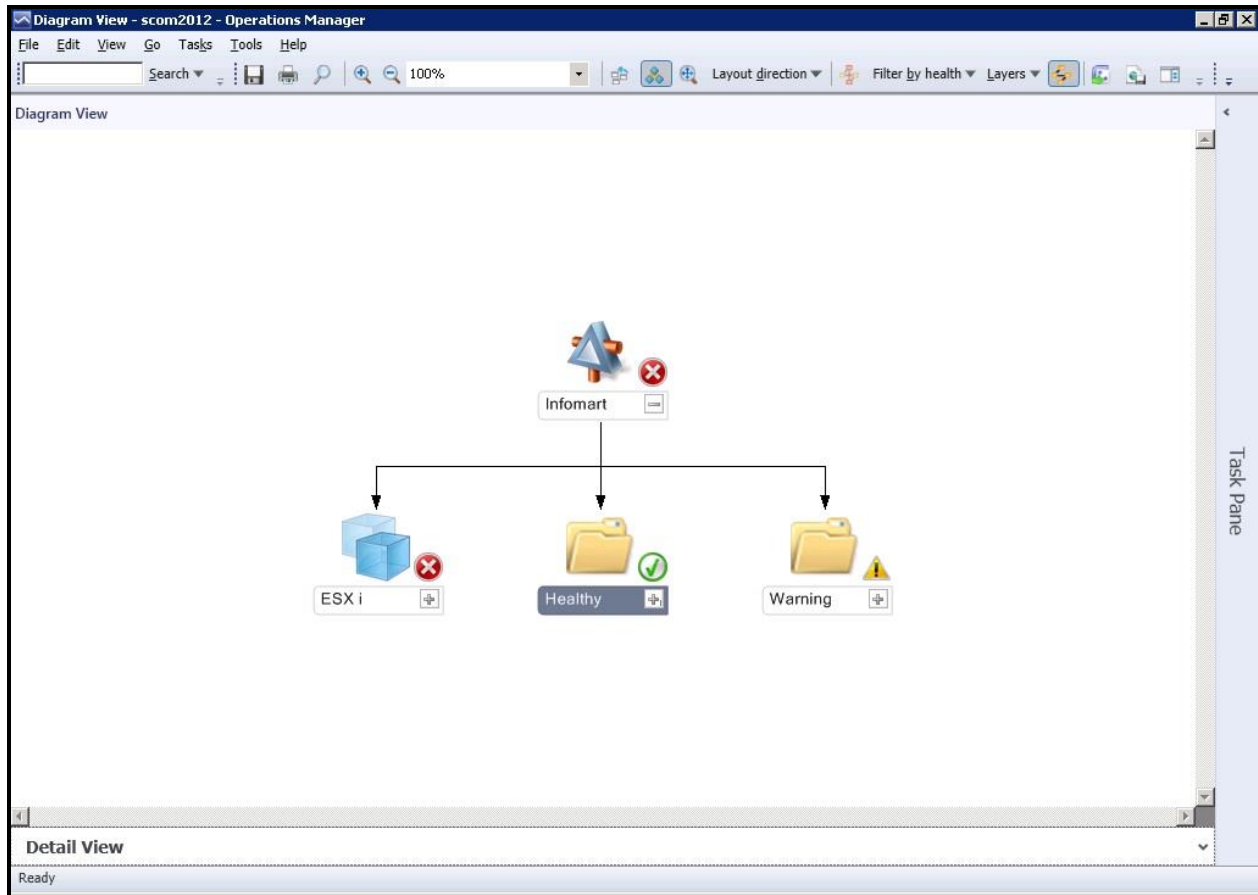
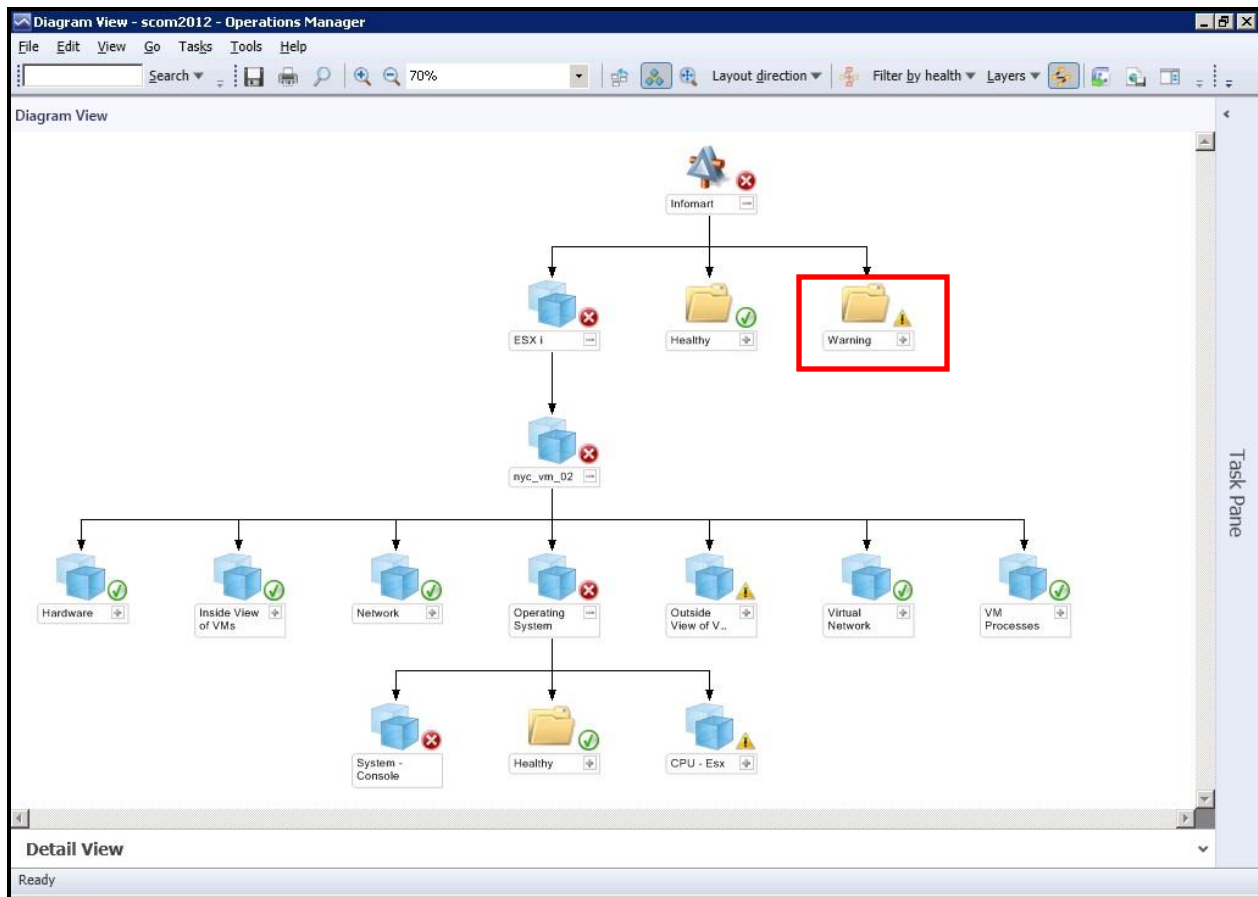

Figure 3.39; The abridged distributed application topology indicating the component in the Critical state
Figure 3.40: Drilling down from the ESXi component to know which eG test reported the Critical problem
15. Figure 3.39 will then appear, displaying an “abridged” topology of the *Infomart* application; this topology indicates that while a single component is in the **Critical** state, some components are in the **Healthy** state and some others in the **Warning** state. From Figure 3.39, we can easily infer that the **ESXi** component is in the **Critical** state and is hence responsible for the dip in the performance of the *Infomart* application. Could this **Critical** issue have caused some components to be in the **Warning** state? Only detailed investigation can confirm that. To begin with however, let us focus on the **Critical** issue with the **ESXi** component.
16. From the topology map of Figure 3.39, you can drill down further to discover where in the **ESXi** component's architecture the **Critical** issue occurred and which eG test caused it. To drill down, click on the + button adjacent to **ESXi** in Figure 3.39. This will reveal the name of the problematic **ESXi** component, which is *nyc_vm_02* in the case of our example (see Figure 3.40). Clicking on the + button next to *nyc_vm_02* will lead you to the layer in which the problem occurred – this is the **Operating System** layer in our example. By drilling one level down, will you can determine the exact test that reported the problem – this is the **System – Console** test in the case of our example. It is now apparent that the **Critical** anomaly occurred in the service **console** of the *nyc_vm_02* component. From Figure 3.40, it is also clear that the **Critical** problem with the **System-Console** test has rippled and affected the performance of the **CPU-Esx** test, forcing SCOM to signal the problem with that test as a **Warning**. To know the exact measures that captured these abnormalities, you have to use SCOM's Health Explorer. Refer to Section 3.6 of this document to know how to use the Health Explorer.